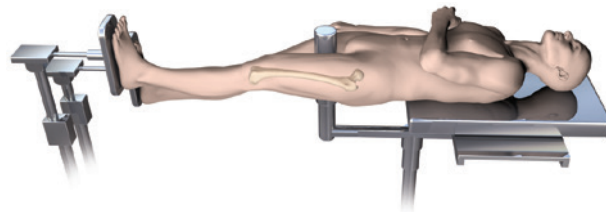
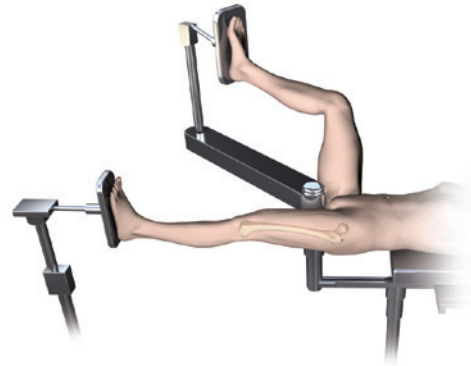

Figure 1
Figure 2
1. Place the patient in the supine or lateral decubitus position on a fracture table (Figure 1).
4. Extend the unaffected limb below and away from the affected limb (Figure 1), or flex the unaffected limb and place it in a leg holder (Figure 2).